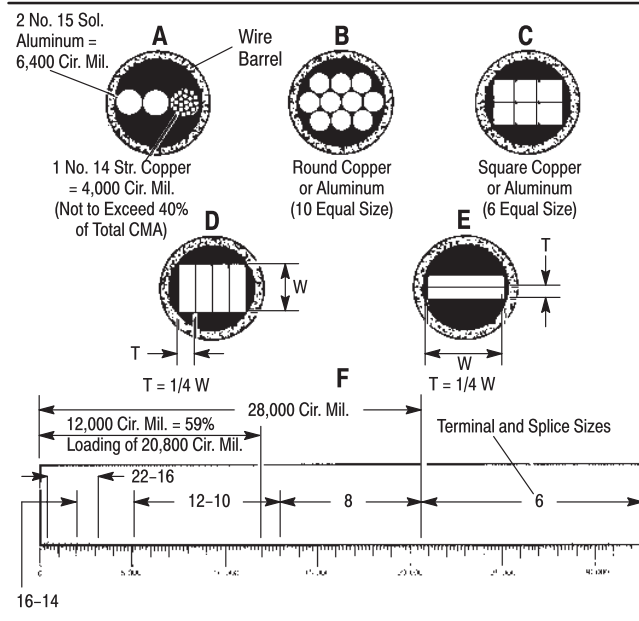

Figure 2
**Condition 1** – See Figure 2, Detail A.
**Condition 2** – See Figure 2, Detail B.
**Condition 3** – See Figure 2, Detail C.
**Condition 4** – See Figure 2, Detail D.
**Condition 5** – See Figure 2, Detail E.
**Condition 6** – See Figure 2, Detail F.